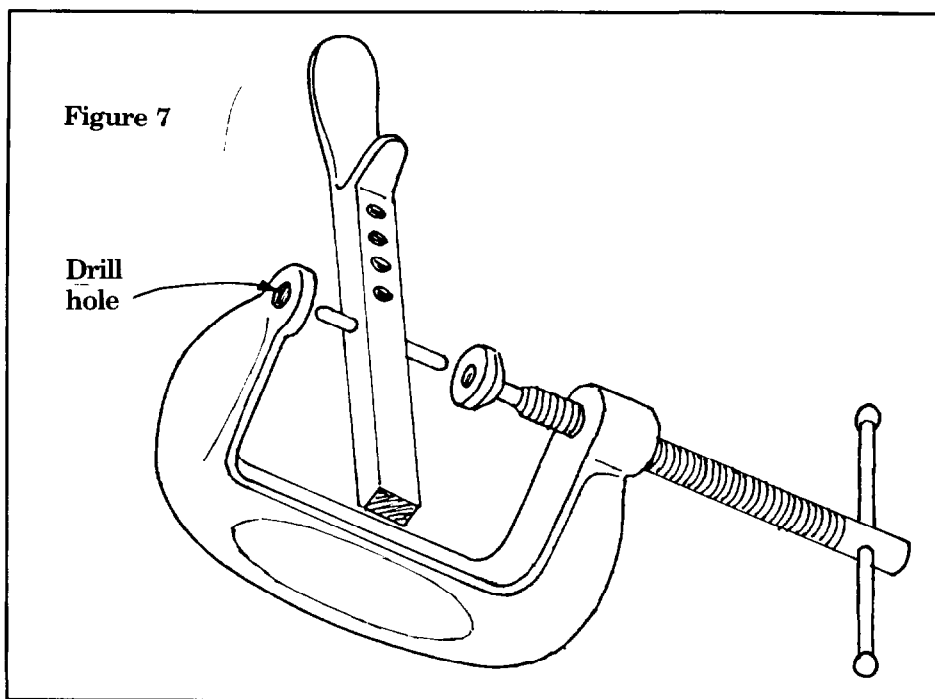

Figure 7
5. A useful tool which should be re-mentioned is Jim Harvey's C-clamp with a hole in the end for removing or inserting pivot pins in a pedal. (Figure 7). On this subject, when the pivot hole in the pedal is enlarged from wear, what is the remedy? Are there pivot pins with an oversized middle section (fluted part)?